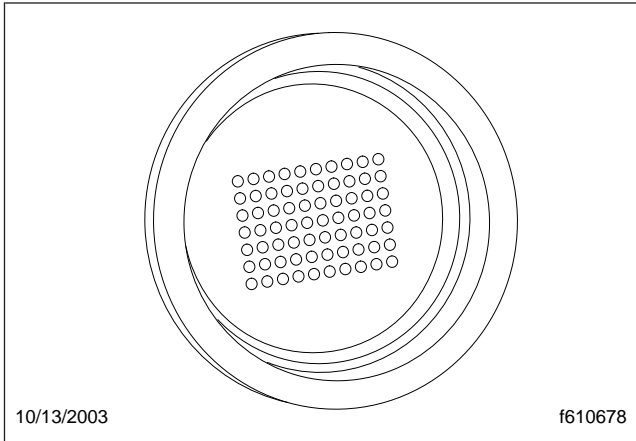

Fig. 8.24, Power-Up Dot Display
3. After the ignition is turned on, the current gear indicator shows the dot display, arranged in a square pattern. All dots in the pattern should light up, without gaps or spaces. See Fig. 8.24.
5. Select drive (D) by pressing in the neutral lock button and moving the selector switch downward to the position below neutral. Release the parking brake. The gear is displayed on the current gear indicator.